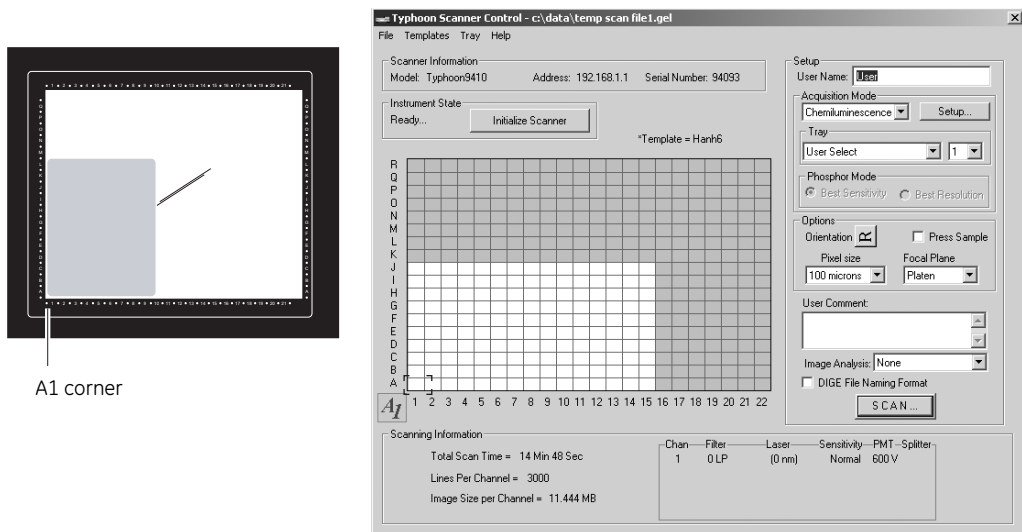

Fig 12-2. Selecting the scan area.
- 1 Place the pointer in the grid square that corresponds to the lowest lettered and numbered grid square of the area you want to scan (fig 12-2). For example, grid square A1 is the lowest lettered and numbered grid square on the glass platen.